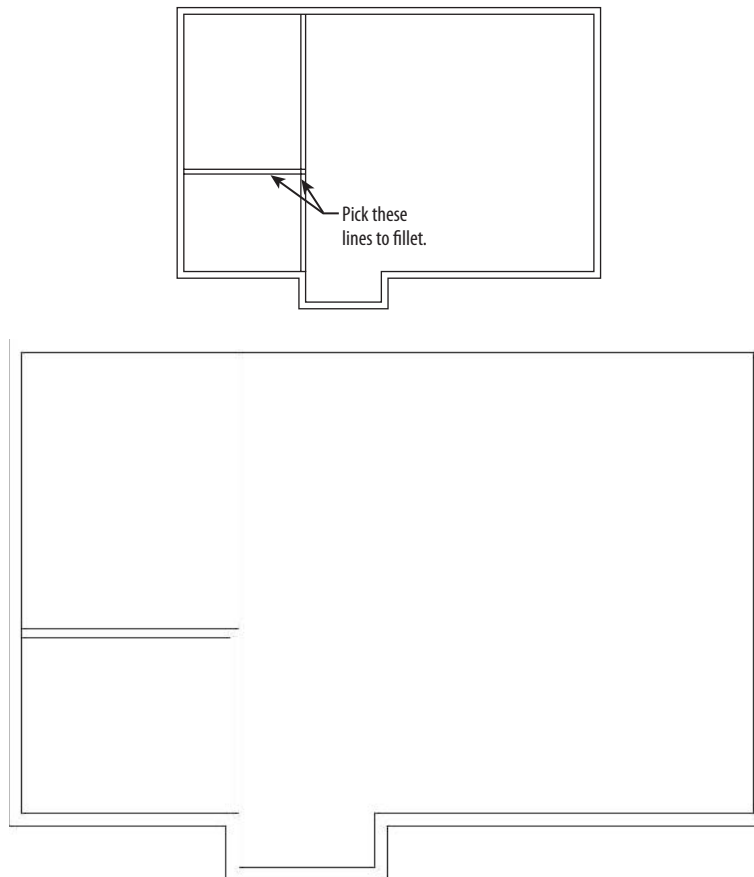

FIGURE 4.17: Selecting the first two lines to fillet (top) and the result of the fillet (bottom)
6. Restart the FILLET command. Press and hold the Shift key as you click the two interior wall lines shown at the top of Figure 4.17. The lines are filleted, and the results will look like the bottom of Figure 4.17.